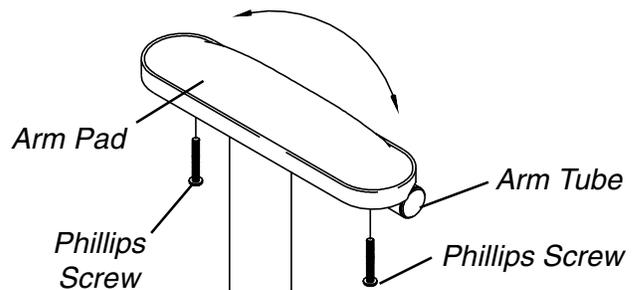

FIGURE 4 - ADJUSTING THE T-ARM WIDTH
**Adjusting T-Arm Width (FIGURE 4)**
1. Remove the two (2) phillips screws that secure the arm pad to the arm tube.
3. Re-secure the arm pad to the arm tube with the two (2) phillips screws.